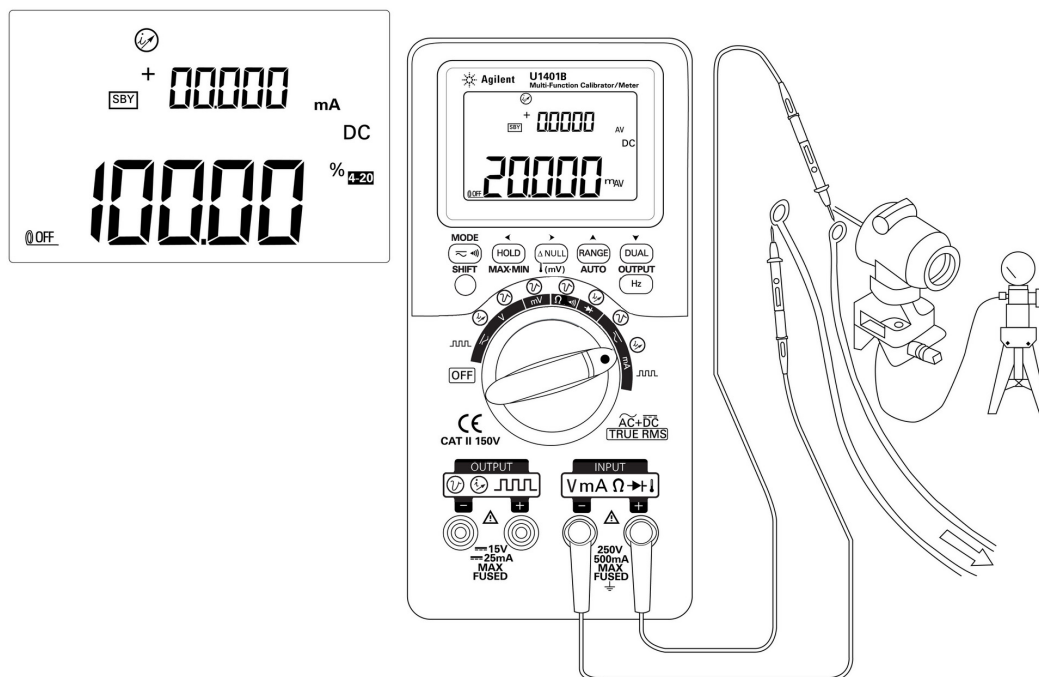

Figure 3-3 DC current (mA) measurement
- 4 Probe the test points in series with the circuit and read the display (see Figure 3-3).
- 5 Probe the test points in series with the circuit and read the display. The inset display in Figure 3-3 shows the percentage scale reading representing 20 mA in the range of 4 mA to 20 mA.